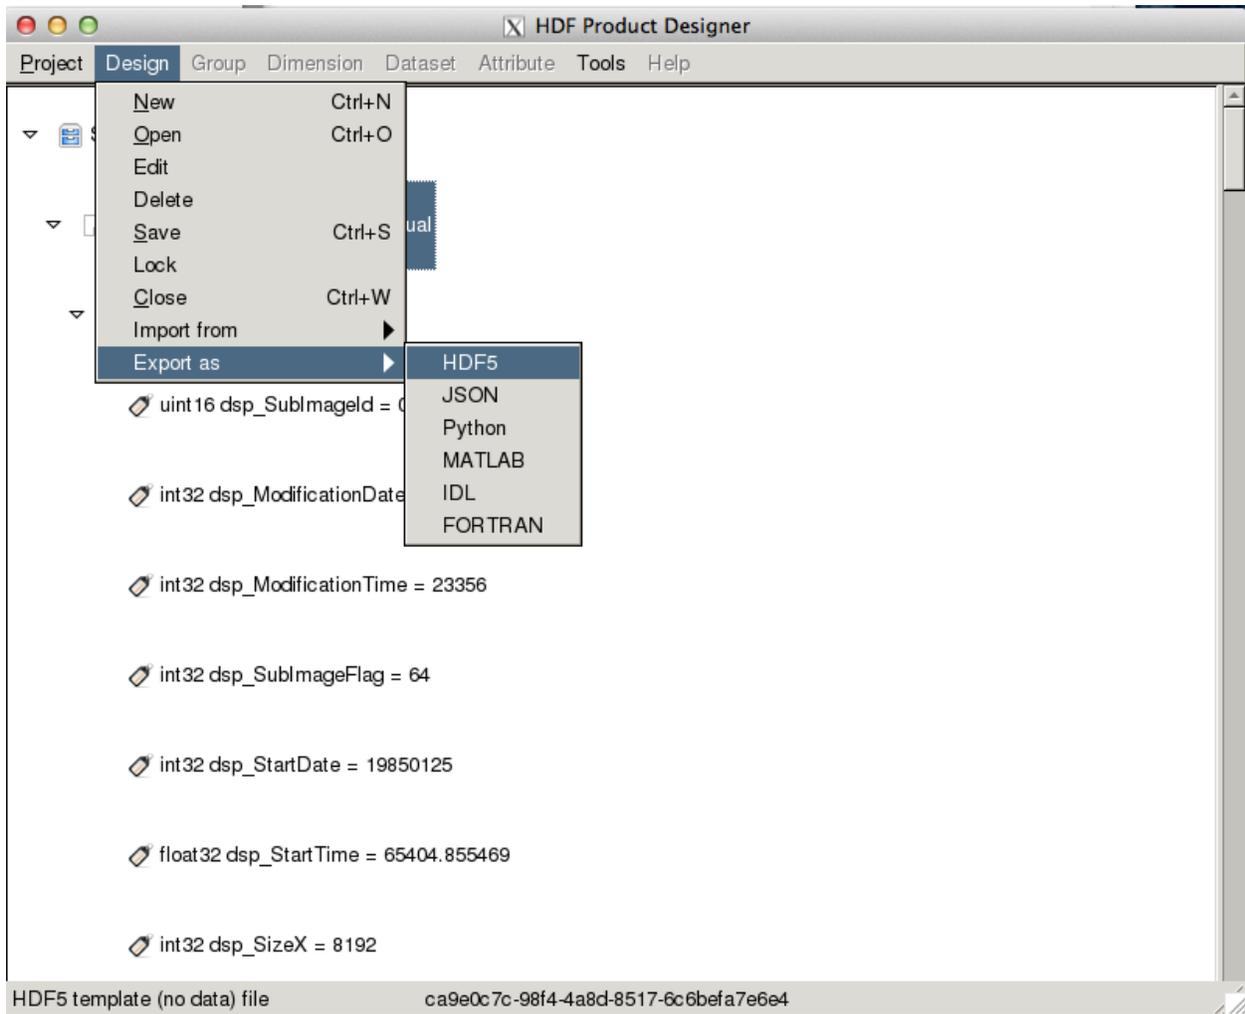

Fig. 5.18: HPD Desktop menu selection for exporting design as HDF5 template file
2. Press **Design > Export as > HDF5** from menu (Fig. 5.18).
2. Press **Design > Export as > JSON** from menu (Fig. 5.18).
2. Press **Design > Export as > Python** from menu (Fig. 5.18).
2. Press **Design > Export as > IDL** from menu (Fig. 5.18).
2. Press **Design > Export as > MATLAB** from menu (Fig. 5.18).
2. Press **Design > Export as > FORTRAN** from menu (Fig. 5.18).